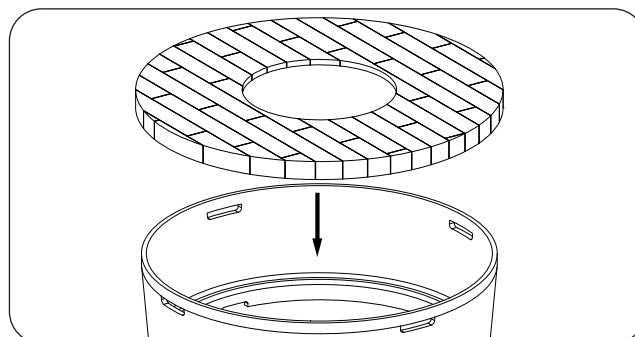

Fig. 32-3 Place top
4. **CAREFULLY** place the top on the unit (see Fig. 32-3).